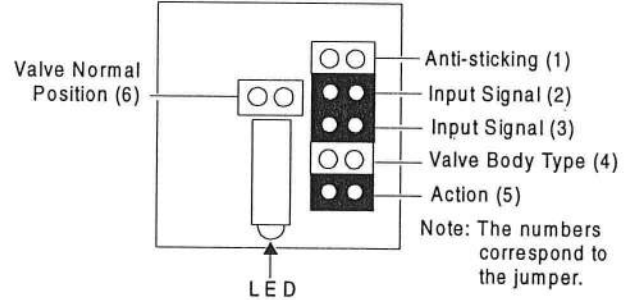

Figure 9: Jumper Locations and Factory Settings
3. Use a small needle-nose pliers to remove or add jumpers. (Refer to Figure 9 for jumper locations and factory settings.)